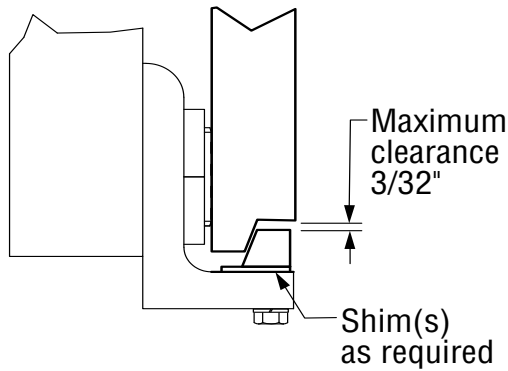

Figure 4-3, Lower Hook Clearance
8. Install the bolt-on lower hooks. Inspect clearance to the carriage on lower hooks. Adjust the lower hooks for a maximum clearance of $3/32$ " (see Figure 4-3). Tighten the bolts to **40-50 ft-lbs.**